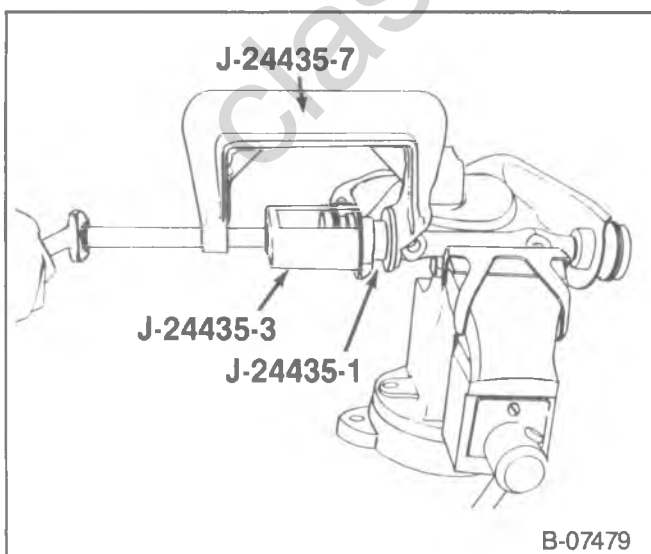

Figure 25—Removing the Lower Control Arm Bushing (G20/2500 w/6.2L Diesel)
1. Lower control arm (36).
2. Bushings (46) and the pivot shaft (50) from the lower control arm (36).
- Use J-24435-1, J-24435-3, and J-24435-7 (figure 25).
- Tighten the clamp (J-24435-7) to remove the bushing (46).
- Repeat the procedure on the remaining bushing (46) to remove it from the lower control arm (36).